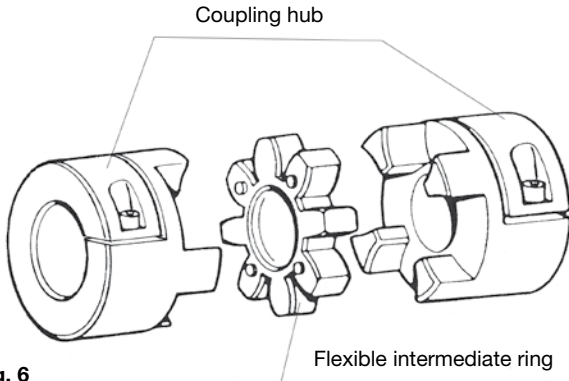

Fig. 6
**ROBA®-ES** stands for flexible (E), backlash-free (S) shaft coupling. The device consists of two coupling hubs and a flexible, star-shaped intermediate ring (Fig. 6).